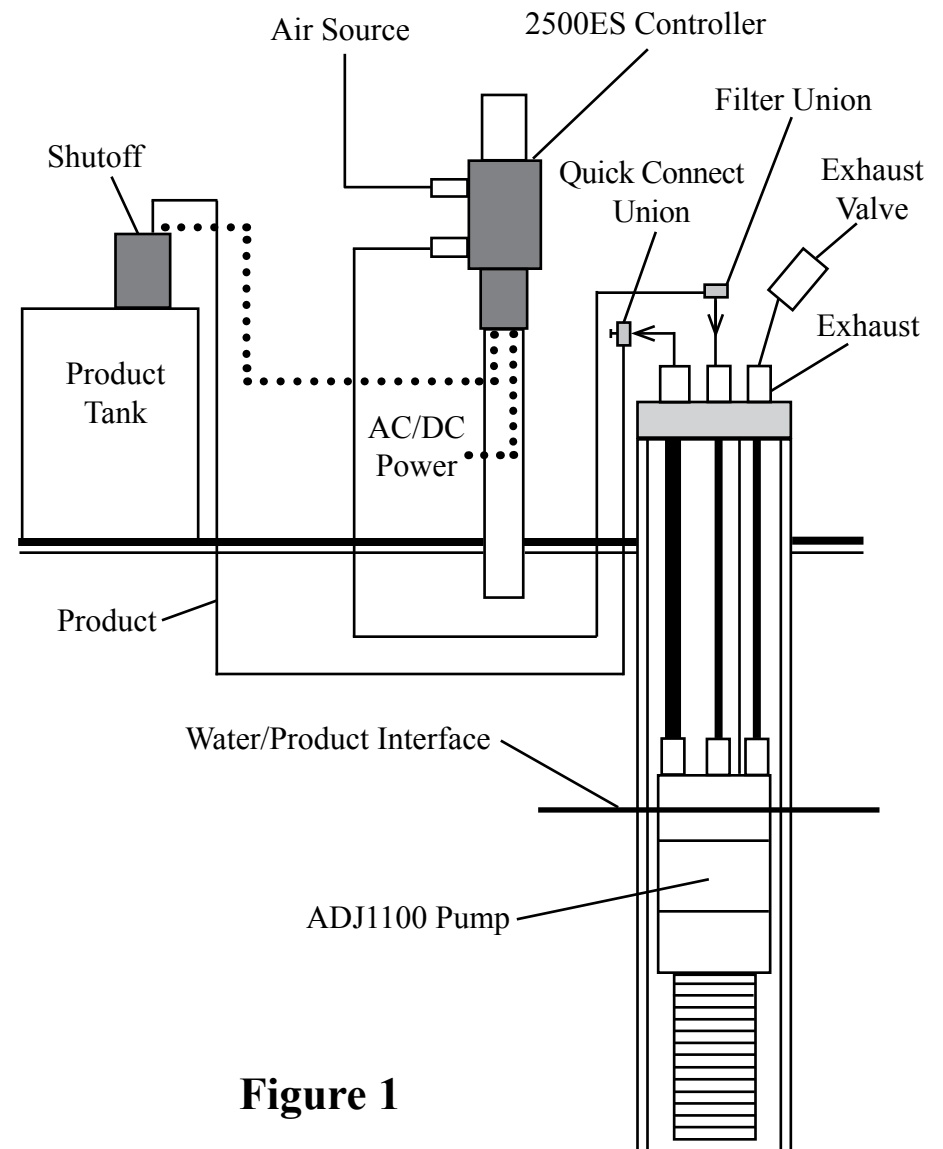
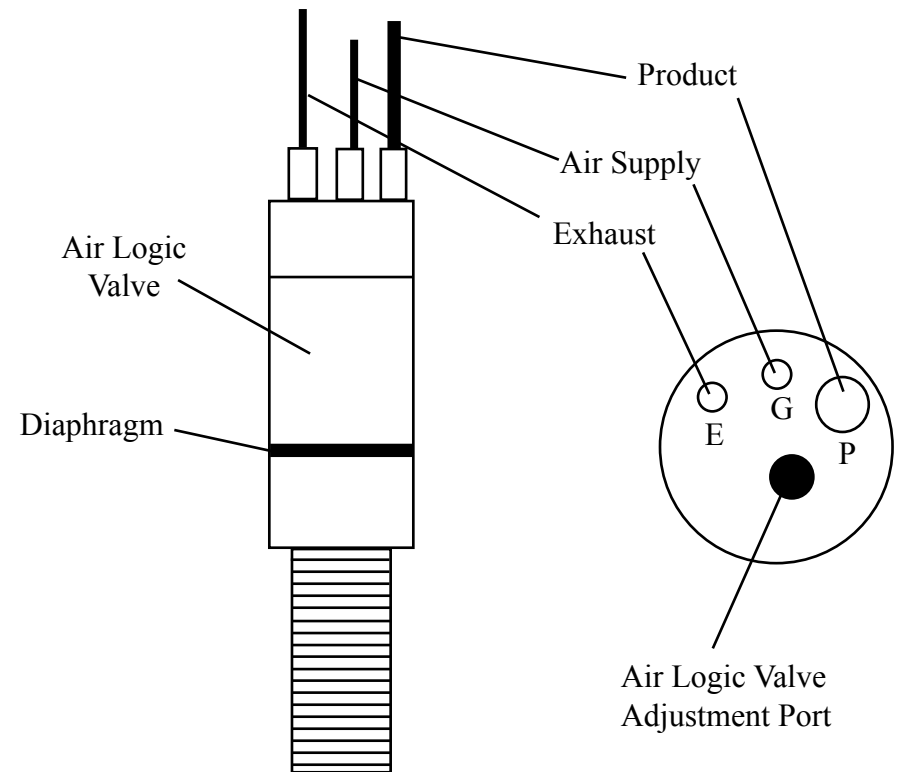

Figure 1
Figure 2
The system (Figure 1) relates to sinking DNAPL recovery in wells four inches in diameter and larger. This system includes: an intrinsically safe pneumatic ADJ1100 Smart Pump (Figure 2) which removes the DNAPL down to 200 feet deep; and a three function electronic Controller Model 2500ES that operates the pump intermittently, records run time, and has a high level tank shutoff assembly.
STEP 7. Position the pump and well cap on the ground near the well. Cut a length of 3/8" OD air supply tubing to cover the distance from top of the well down to the bottom of the well, plus 5 feet. Slide enough tubing through the well cap to position the pump at the bottom of the well and attach the end of the tubing to the top of the pump tube fitting labeled "G" (Figure 2).
STEP 8. Cut a length of 1/2" OD product tubing same length as the air supply line. Install 1/2" OD product tubing through the well cap tube fitting labeled "P" (Figure 2). Slide enough tubing through the well cap and attach the end of the tubing to the top of the pump tube fitting labeled "P". **CAUTION:** Do not kink the tubing.